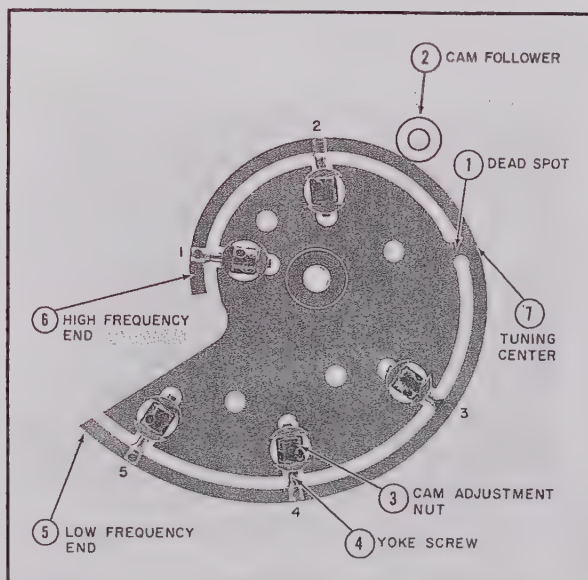

Figure V-28. Frequency Cam Assembly.
(b) Turn the main TUNING knob counterclockwise until the dial pointer indicates 1540 MCS on the #4/3 RANGE. At this point on the dial, the cam follower (ref. 8, Fig. V-25) should rest slightly to the low frequency side of the dead spot (Ref 7, Fig. V-28). It is usually not necessary to readjust for this setting unless, through long use and vibration, the cam has slipped on its shaft. In that event, loosen the setscrews on the cam hub and carefully reset the cam.